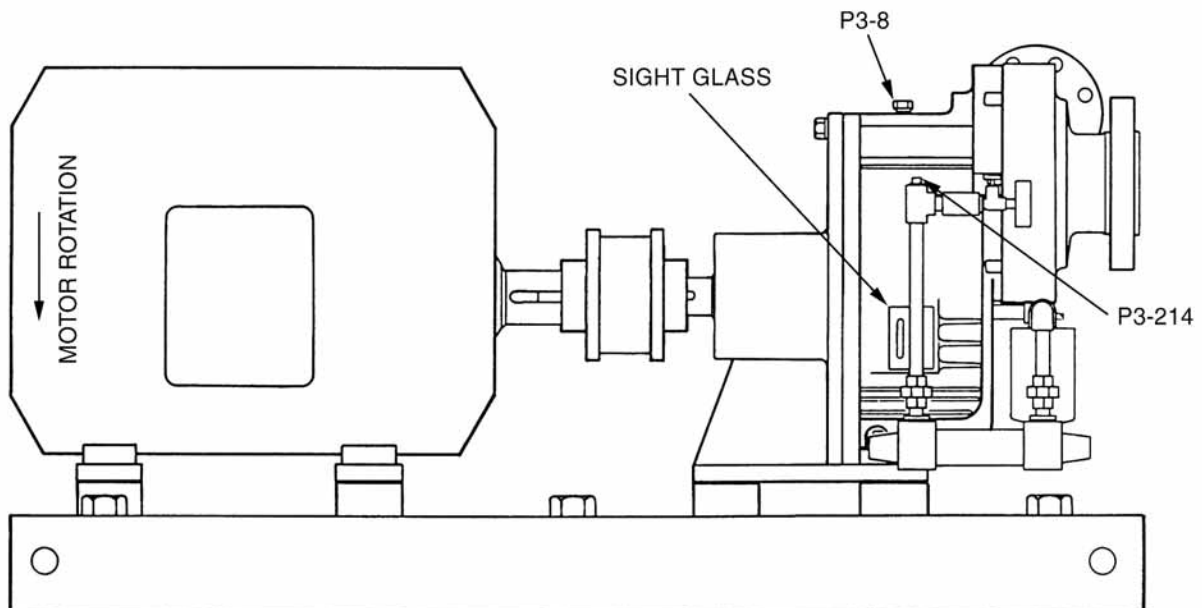

Figure 3.
- A. Prior to initial startup and after any disassembly, the following oil fill procedure must be followed to ensure proper priming of the high speed shaft journal bearings. Please refer to Figure 3.